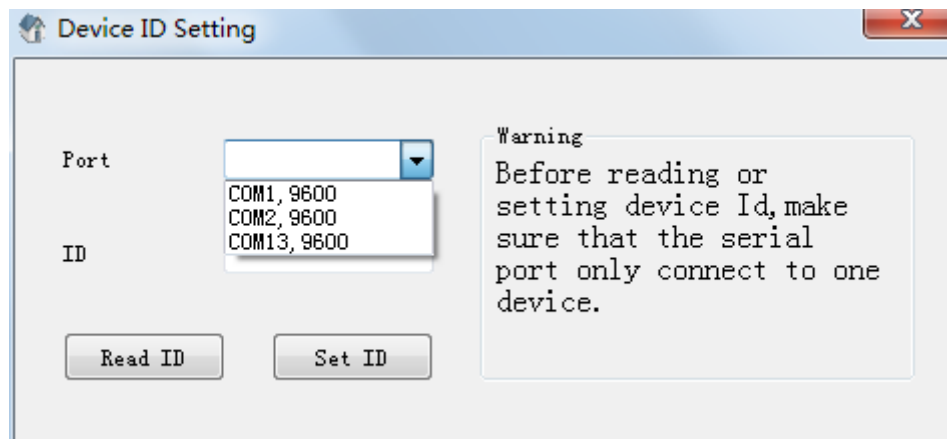

Figure 4-5-6 Dialog box for setting an ID
- 2、 Choose **Parameter**—>**Device Parameter**—>**Device ID Setting** on the menu bar, and the page as shown in fig 4-5-6 appears.